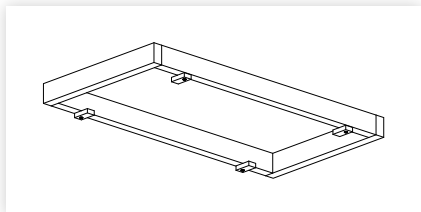

figure 8
1. Screw four temporary cleats approx 80mm x 40mm into your timber frame (figure 8). Ensure cleats can be rotated.